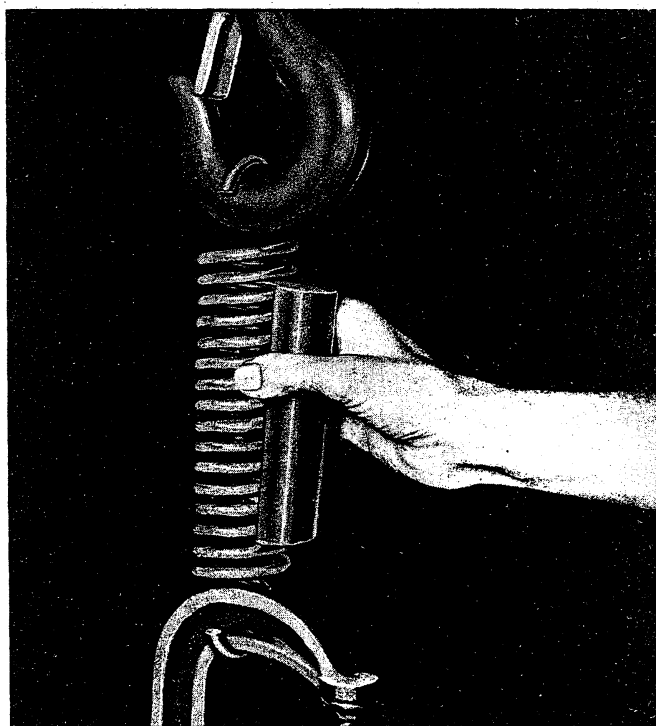

Fig. 12 - Installing J-9559 in New Spring
2. Hook one end of spring in clamp and the other end in hook of hoist as shown in Figure 12.